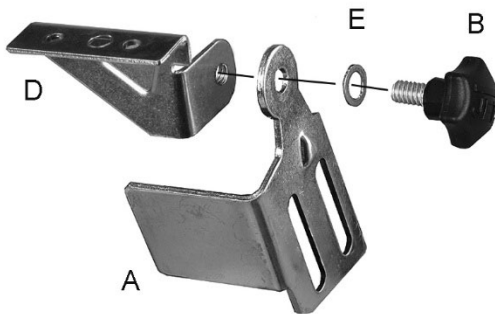

Figure 5: brackets to spark guards
Refer to Figure 5.
1. Assemble the left spark guard and eye shield bracket using Figure 5 as a guide. Make sure spark guard and bracket are both marked **L**.